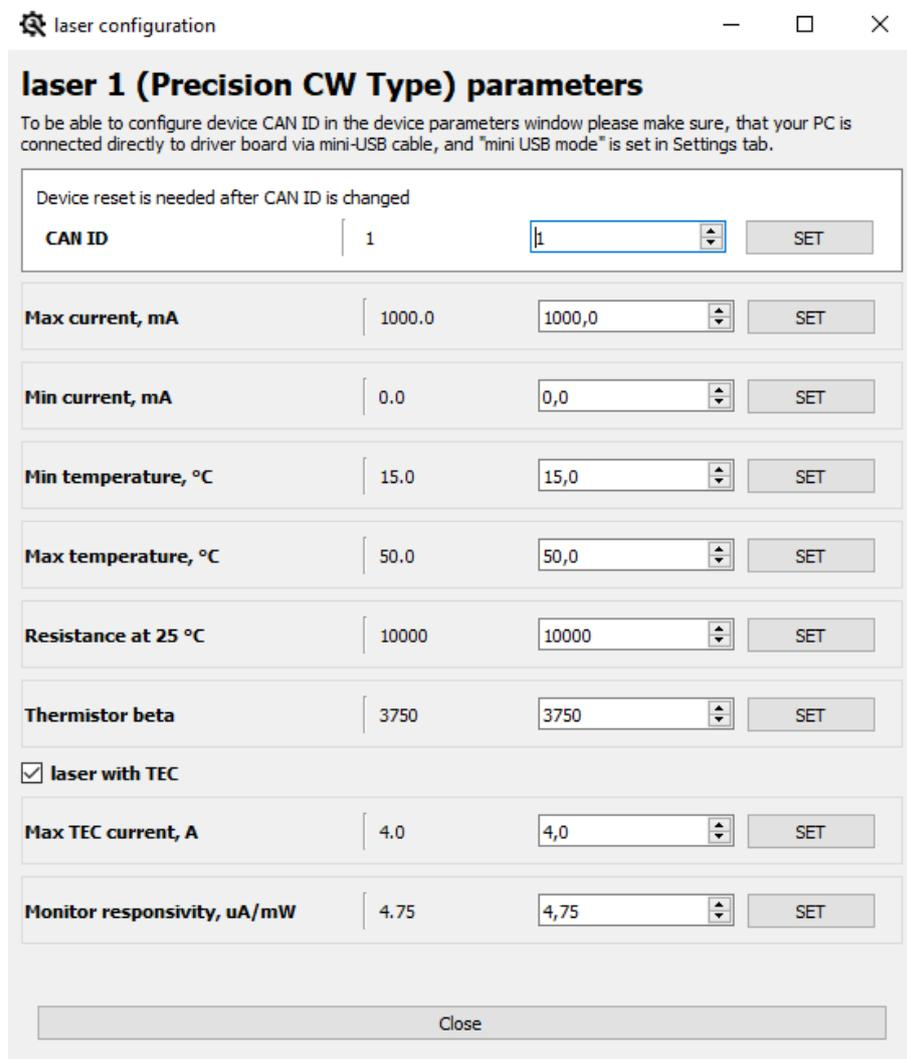

Figure 2: The laser diode setting menu
11. Click  icon located in the control panel's upper right corner to enter the driver setting mode. The driver setting mode allows entering laser diode parameters and the permitted range of laser operating conditions (fig. 2).
The user can access the laser diode settings menu by pressing the wrench icon in the expanded main control view. The wrench icon will open a new individual menu for each of the connected diodes, and the software applies the new settings only to that single diode. The user can set the allowed ranges for the voltage and temperature and apply some other diode specific settings such as thermistor resistance values. The available settings for CW drivers are shown in Figure 2.